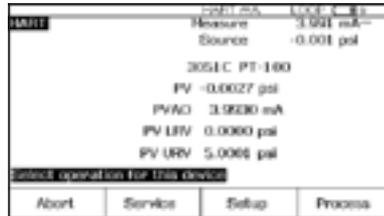

Figure 5.
1. Power on the Fluke 754 Calibrator. Press the red  key followed by the **Loop Power** softkey and the 754 will display the basic HART information for the 3051 (Figure 5).